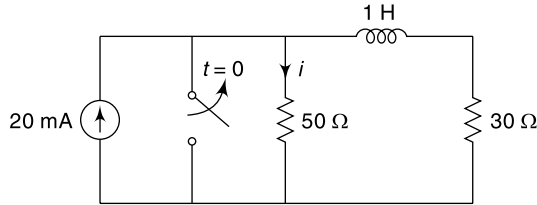

Fig. 14.76
14.84 Find the current i through the $50\ \Omega$ resistor in Fig. 14.76 at (i) $t = (0^-)$, (ii) $t = (0^+)$, (iii) $t = \infty$ and (iv) $t = 2\text{ ms}$.